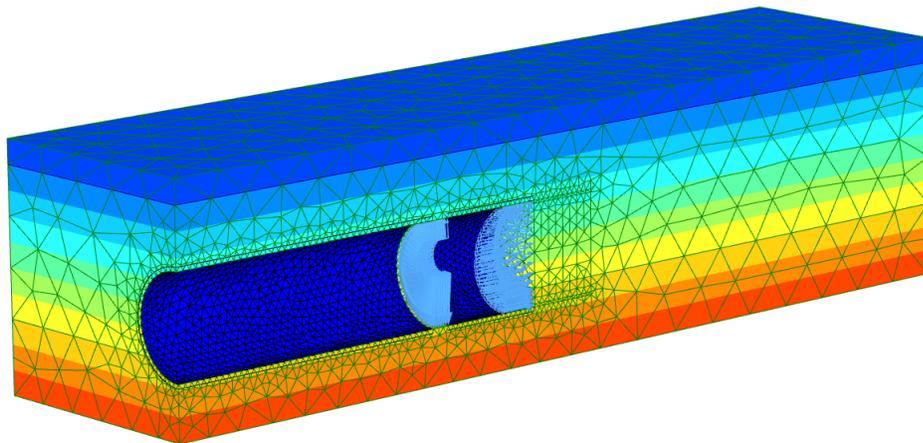

Figure 82: Preview of the Phase 1
7.  Click the **Preview** button to get a preview of everything that has been defined (Figure 82 (on page 106)). Make sure that both grout pressure and tunnel face pressure are applied and that both increase from top to bottom.